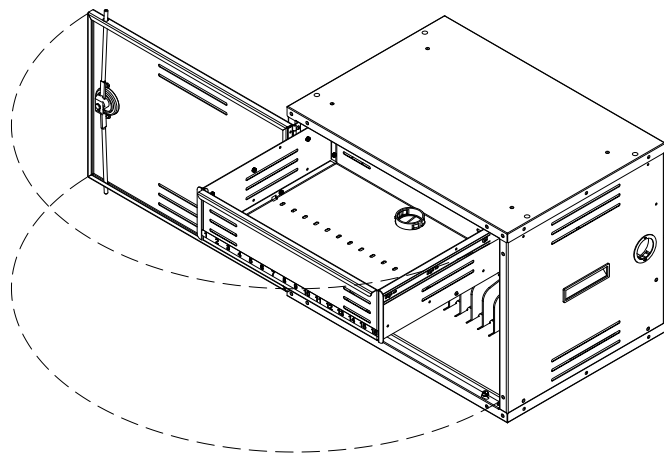

Figure 4A
1. Open the front door and pull out the power drawer. **Figure 4A.**